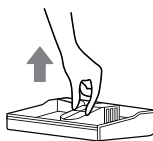

Fig. 25
2. Rinse the cleaning tray with water, allow it to dry, then place it back into the chassis and reassemble the docking station. [Fig. 25]